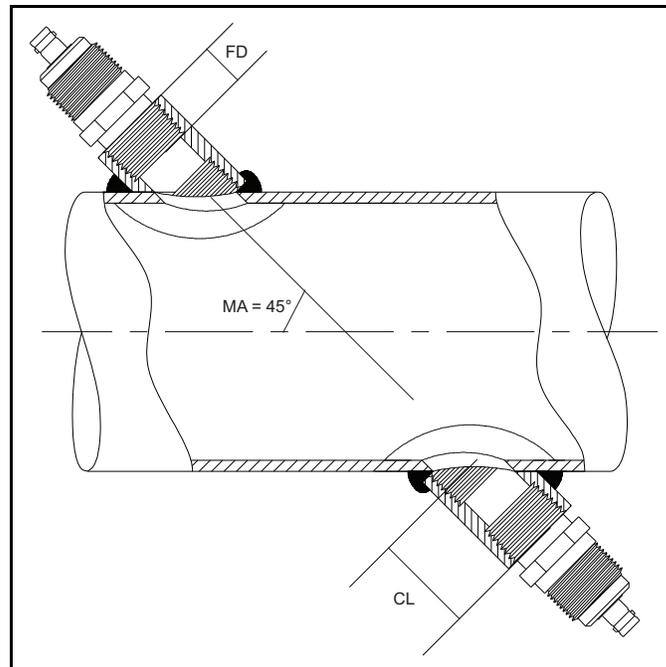

Figure 23: Determining the Pipe Coupling Length
- Pipe inside diameter (ID)
- Wall thickness (WT)
- Installed pipe coupling length (CL)
- Transducer face depth (FD)
- Mounting angle (MA)
Use *Figure 23* below to properly measure the coupling length. Typically, the transducer face is positioned just outside the inside diameter (ID) of the pipe or slightly retracted inside the coupling.